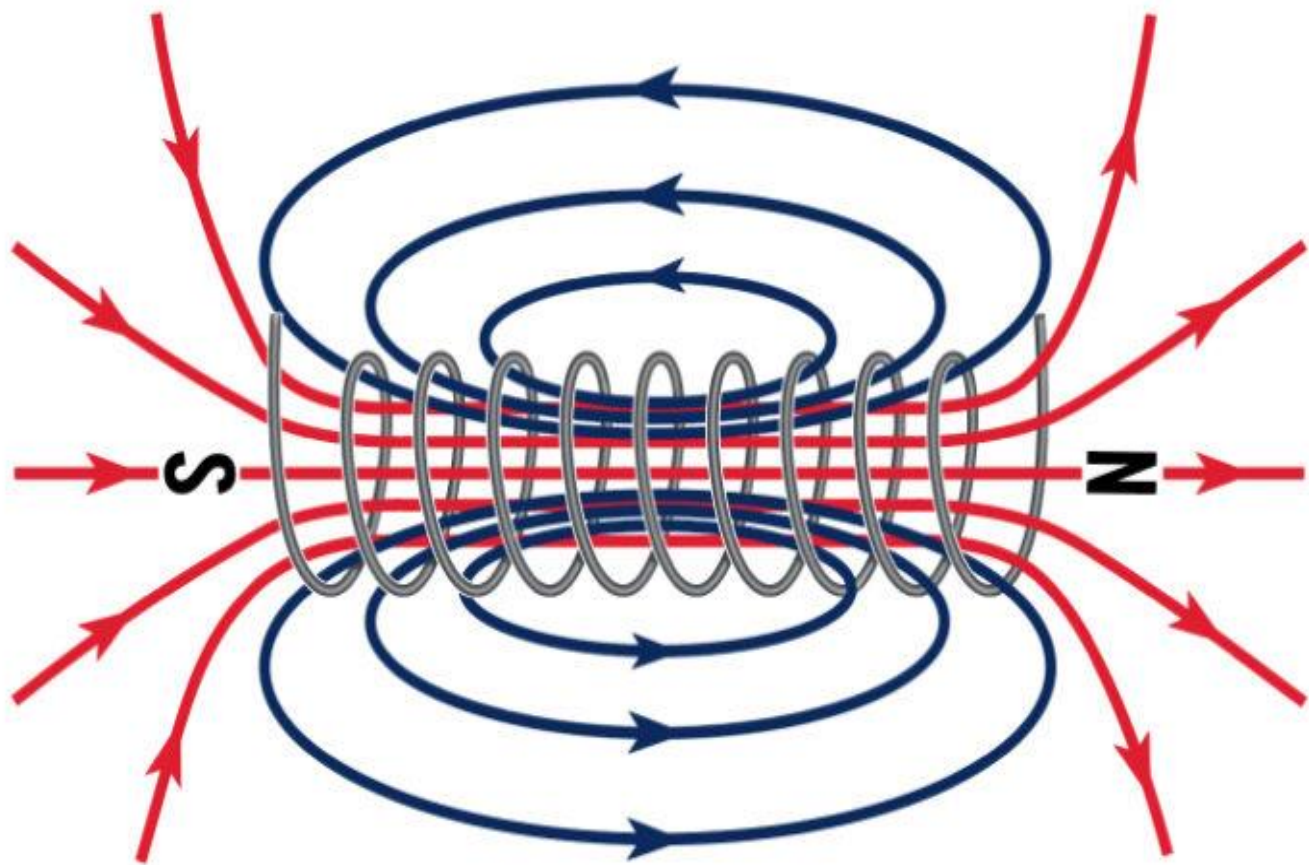

Figure 1: Electrical Field Through Solenoid Coil
- A solenoid valve is an electromechanical device used to control the flow of a liquid or gas. It is comprised of two features: a solenoid and a valve. The solenoid is an electric coil with free-moving ferromagnetic material in the center of the coil, often referred to as a “plunger.” When voltage is applied to the coil, the solenoid is energized. This action creates a magnetic field that either attracts or repels the plunger and causes it to translate linearly (see Figure 1). The plunger either opens or closes the orifice the media flows through.